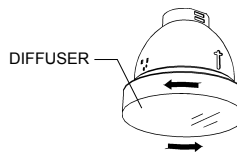

FIG. 3
1. Remove the diffuser by turning counter-clockwise. (Fig. 3)
2. Install the locking clip. (Fig.3)
2. Bend the locking tab to hold it in place (Fig.2), or use the locking clip provided. (Fig.3)